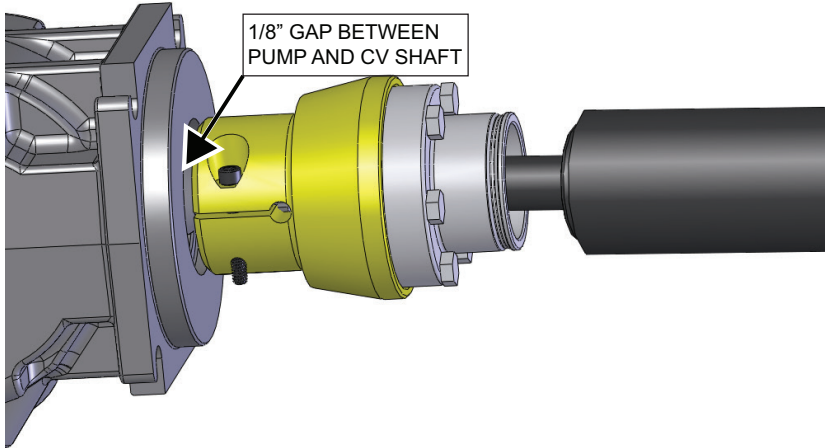

Figure 3
- c. If there is 1/8" gap between the pump and CV shaft (Figure 3).